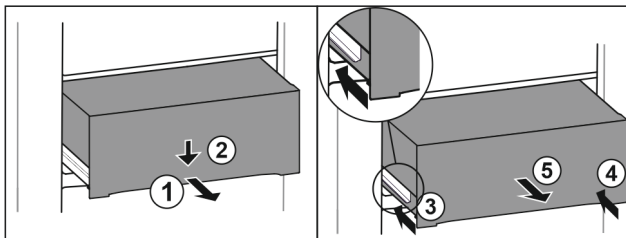

Fig. 86
- ▶ Pull out drawer half-way. Fig. 86 (1)
- ▶ Push the drawer down at the front. Fig. 86 (2)
- ▶ Push the left rail in by about 2 cm. Fig. 86 (3)
- ▶ Push the right rail in by about 2 cm. Fig. 86 (4)
- ▶ Remove drawer to the front. Fig. 86 (5)